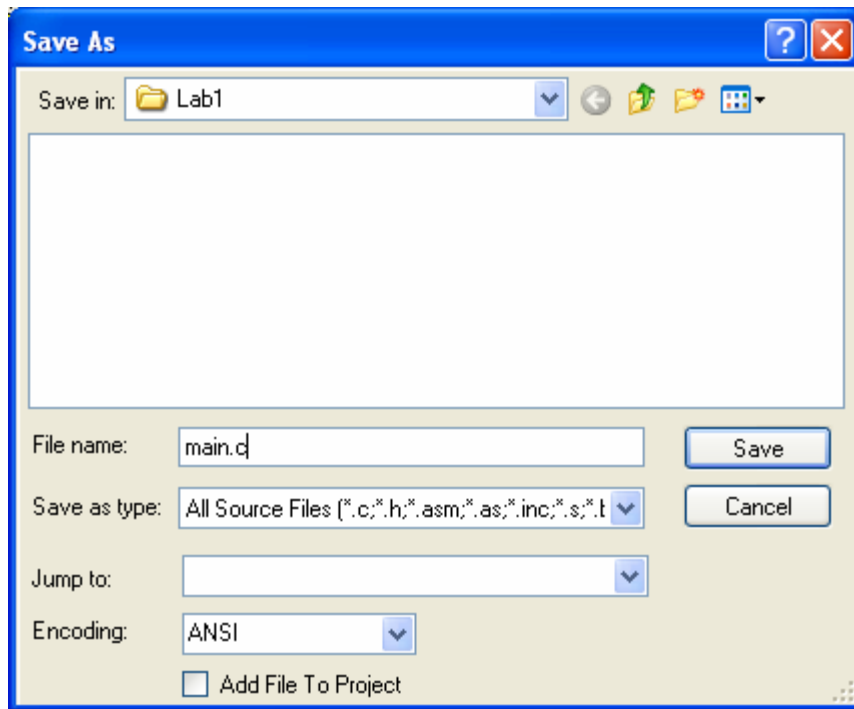
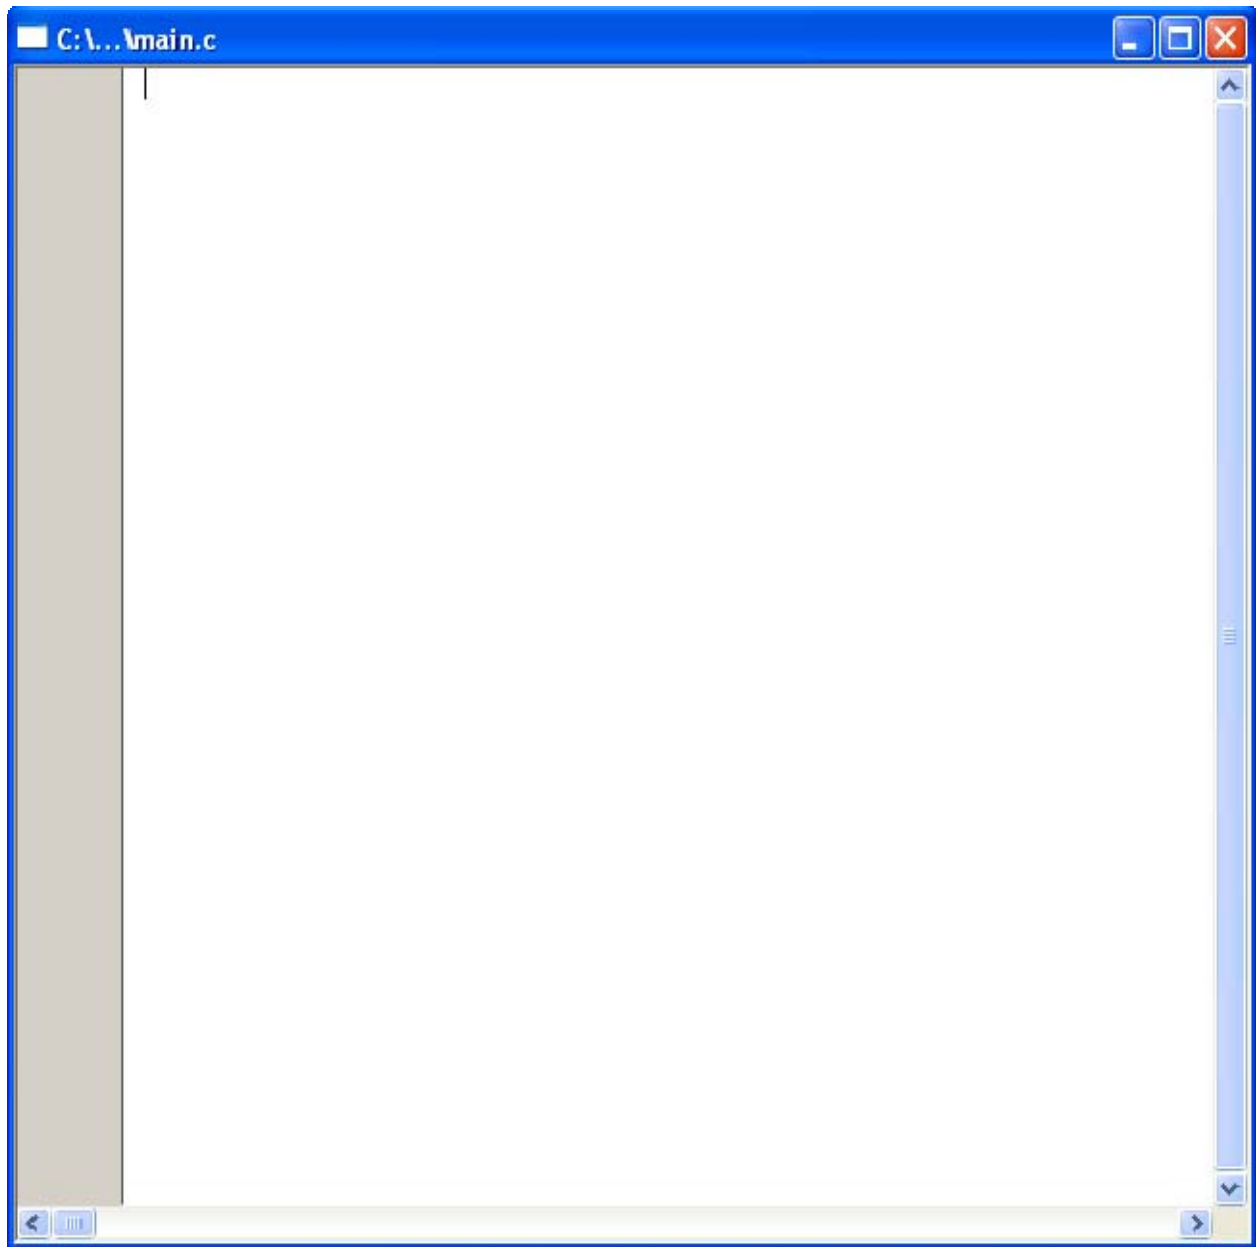

Figure 15: "Save As" Window
Figure 16: Renamed Source File
Step 12: Provide an appropriate filename. Be sure to add the .c extension since we are starting with the C compiler. Click "Save" (Figure 15).
Your text editor, shown in Figure 16, should now be labeled with the name provided in the window of Figure 15.